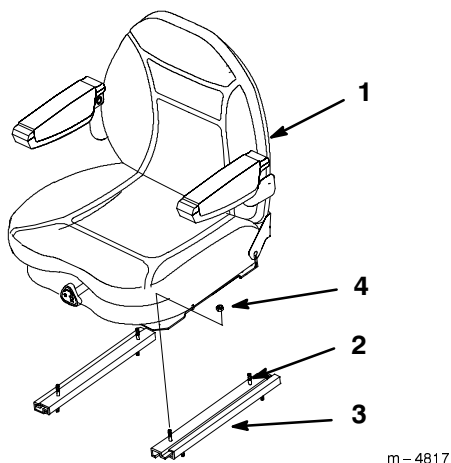

Figure 4
- Position seat on the studs in the adjustable tracks (Fig. 4).
- Install nuts onto studs (Fig 4).